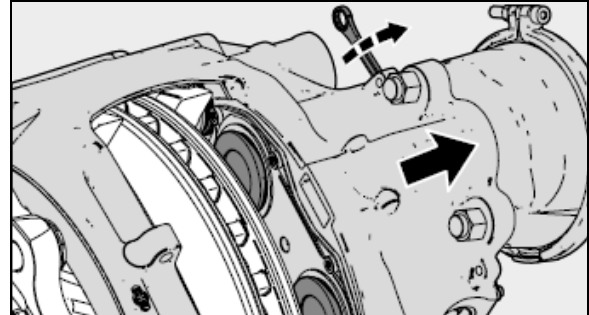

FIGURE 48: REWIND TAPPETS COMPLETELY AND PUSH CALIPER IN DIRECTION OF MIDDLE OF VIEW
4. Fully wind back the tappets (13) using a ring spanner and shear adapter (61) (see Figure 48).